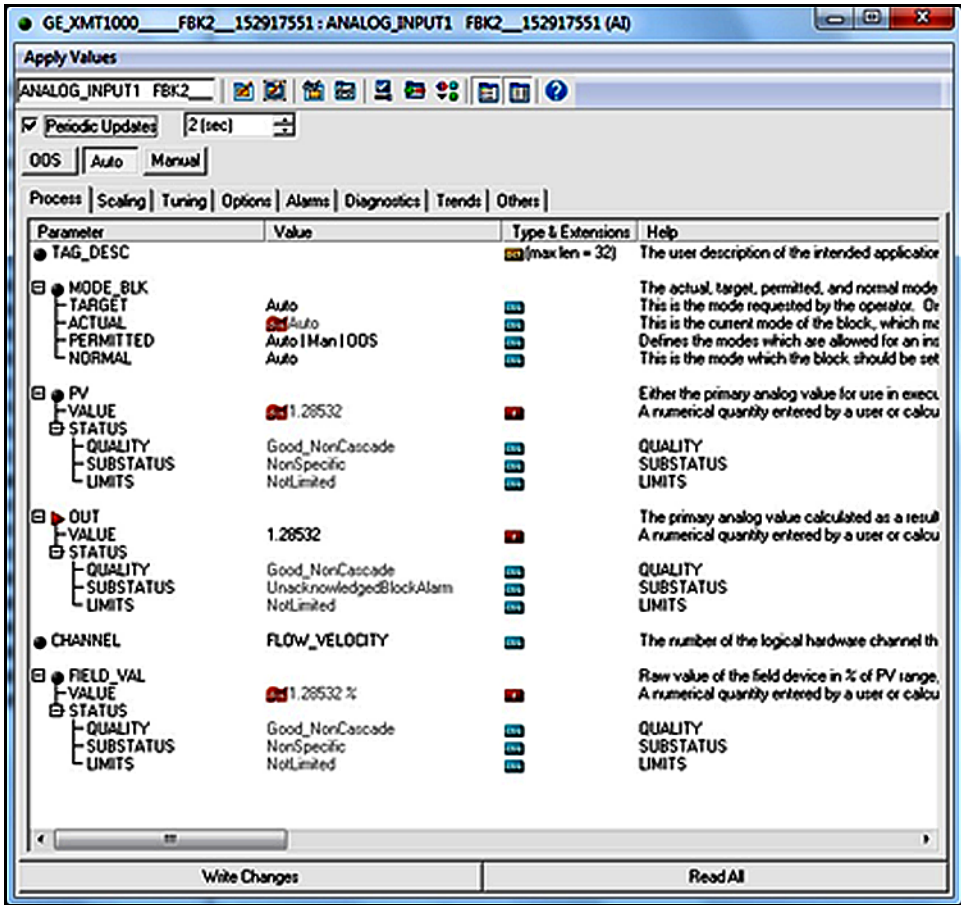

Figure 31: Analog Input (AI) Block
The Analog Input (AI) Block (see *Figure 31* below) is designed as a generalized signal conditioning function. The output from an AI block can be connected to the Fieldbus. The AI block receives and processes data measured by the **Transducer Block** and provides additional functions such as scaling, filtering, alarm generation, and trending.